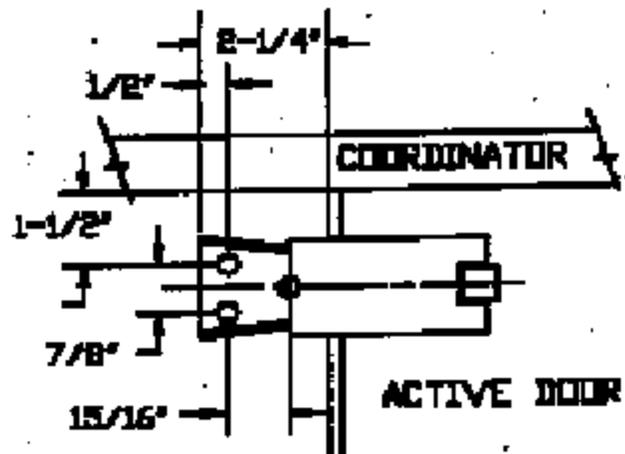

FIG. 3
3. INSTALL CARRY BAR WHEN REQUIRED (FIG 3)